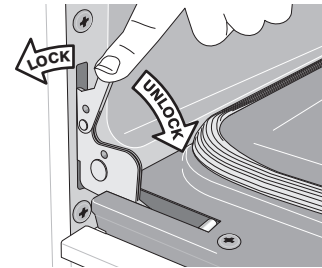

Figure 40: Door hinge locks
2. Pull the door hinge locks on both left and right door hinges down from the oven frame completely towards the oven door (See Figure 40). A tool such as a small flat-blade screwdriver may be required.
4. Push the door hinge locks up towards and into the oven frame on both left and right oven door hinges to the locked position (See Figure 40).